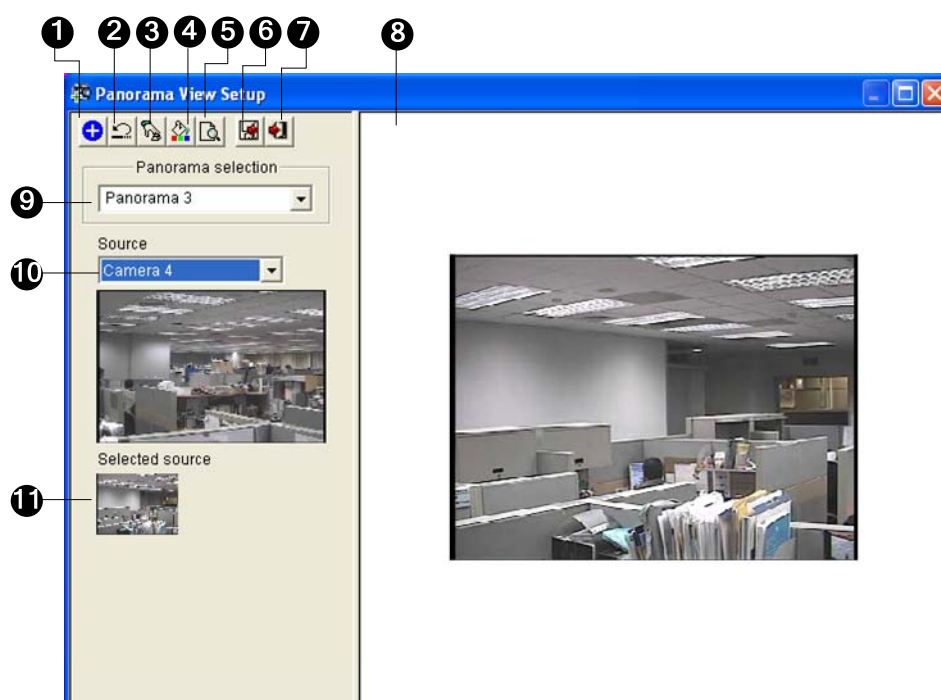

Figure 3-31
1. Select one panorama set (No. 9, Figure 3-31) from the drop-down list. If you want to rename the selected panorama set, type the name in the field.
2. Select one camera from the Source drop-down list (No. 10, Figure 3-31) and then click **Manual Setting** (No.3, Figure 3-31). This dialog box appears.
8. When you finish stitching images, click the **Save Before Exit** button (No.6, Figure 3-31) to save the created panorama view before exiting the Panorama View Setup dialog box.